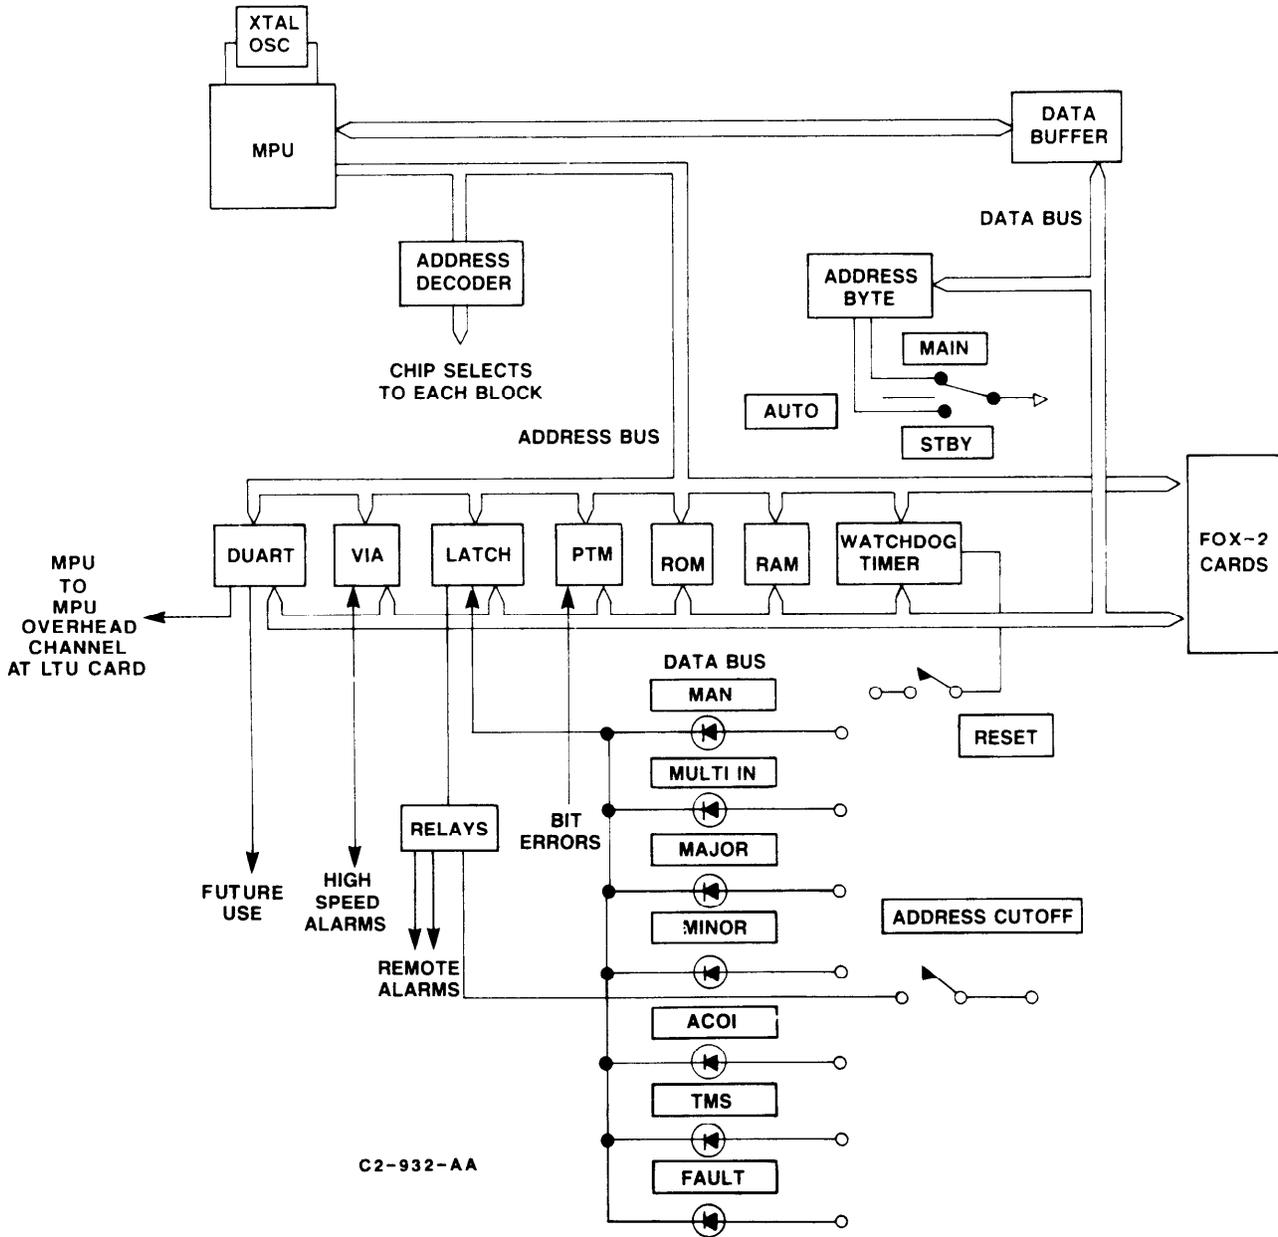

Figure 2. MPU Card CCA002G5 Block Diagram
2.06 Figure 2 is the block diagram of the MPU card. The MPU is buffered to two bus structure, an address bus, and a data bus. These bus structures are buffered out to the backplane from the MPU card, allowing the MPU to address individual cards in the system as it addresses its own on the MPU card memory. The Address bus has eight bits of address power, but only A0, A1 and A6 are extended to the backplane bus.